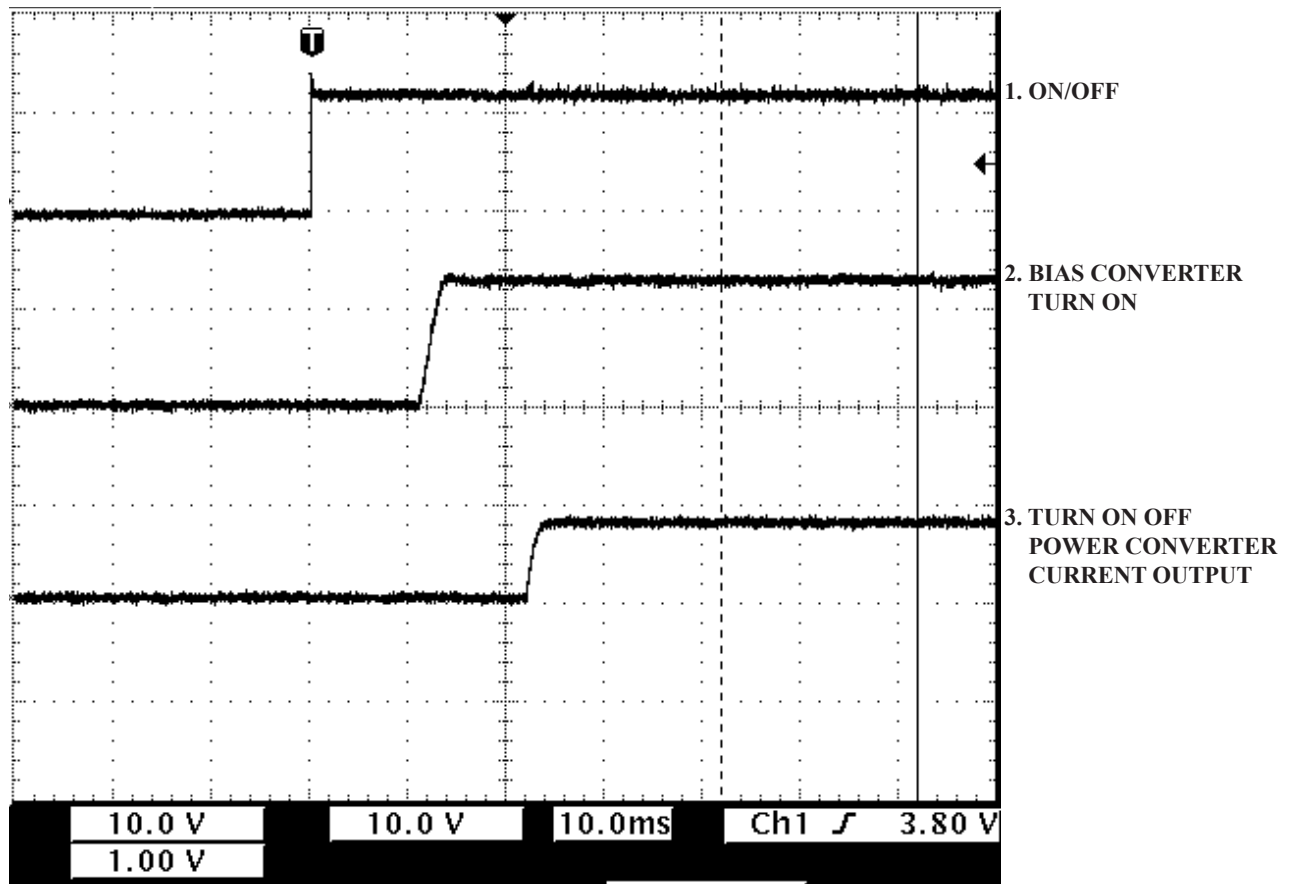

FIGURE 4. Power converter output current, bias converter and ON/OFF waveforms
A) Assuming that the applied V_{in} is within $UVP \leq V_{in} \leq OVP$ in approximately 14ms, the bias converter is turned on (See FIG 4) and powers the input and output control circuitry, PWM 1 is ON. At this point, a power “good” signal allows the soft start capacitor of PWM 2 which was held low during the first 14ms to go through its turn on delay and soft start to deliver power to the output under the direction of the output control. The total turn on delay and soft start for the PWM 2 is approximately 24 to 30ms (See FIG 4, 5 of datasheet). Depending on the output configuration, the ACC1200 can operate as a constant current or constant control converter.